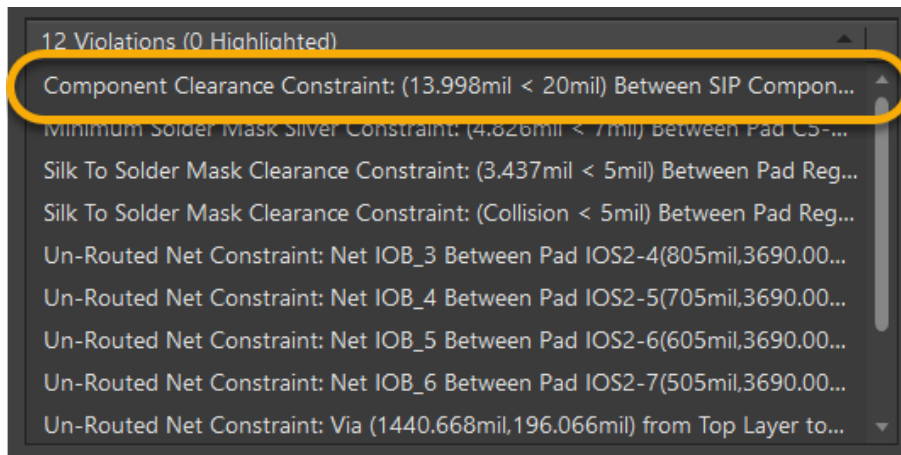

Figure 8. Component Clearance Violation
19. Click on the **Component Clearance Constraint** violation in the panel, as shown in Figure 8. The order of these violations may be different for you.